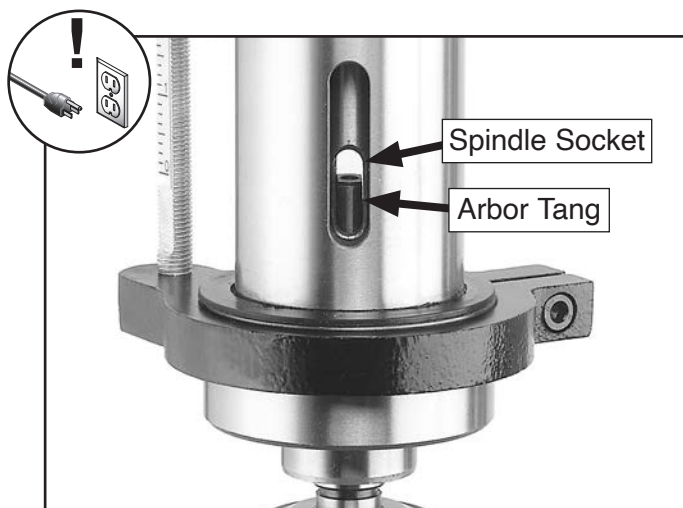

Figure 32. Example of arbor tang lined up with spindle socket.
6. Slide arbor into spindle socket while slowly rotating chuck to line up tang on arbor with slot in socket (see **Figure 32**).